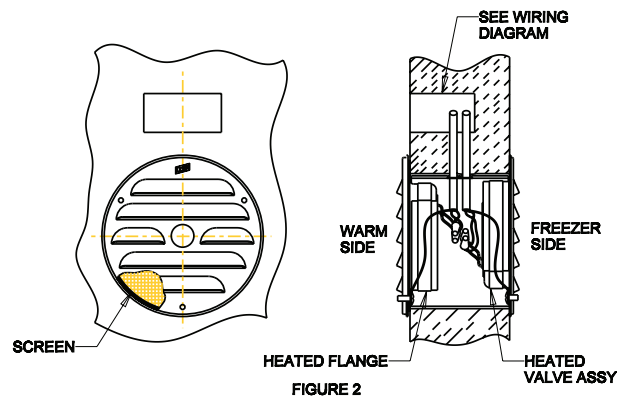

FIGURE 2
3. Cut a hole for the junction box into the outside (warm side) of the panel, the size and shape of the hole to suit the junction box to be used. Locate the box within two (2) feet from the PRP (Fig. 2).
4. At mid-point in the 4-13/16" hole, provide a hole for the cords to pass through the insulation and into the junction box hole (Fig. 2).